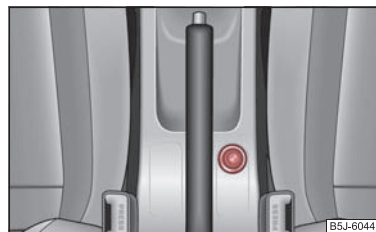

Fig. 77 Centre console: Cigarette lighter
- Press in the button of the cigarette lighter ⇒ fig. 77.